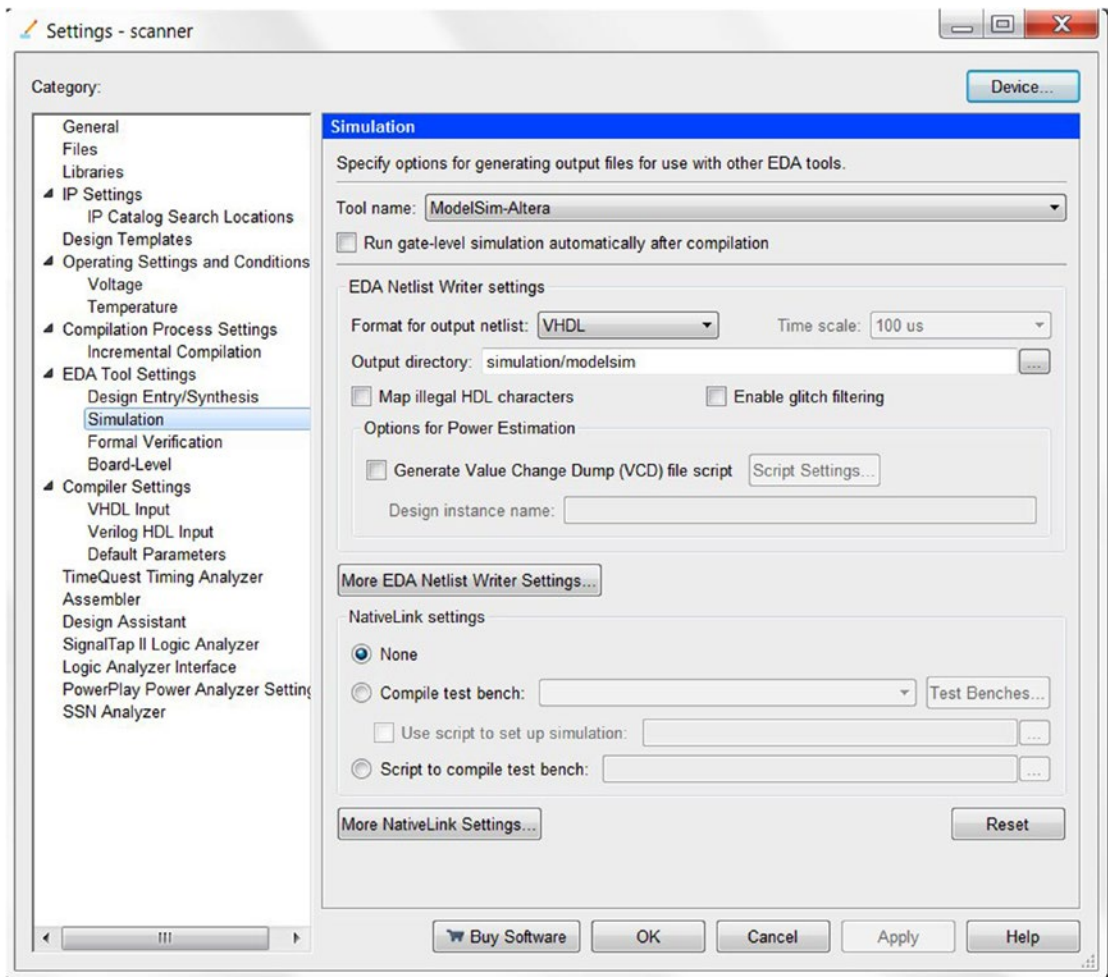

Figure 4-30. Simulation settings
1. Click **Assignments ► Settings ► EDA Tools Settings\Simulation** to open the simulation settings window. Your setting should look like Figure 4-30.